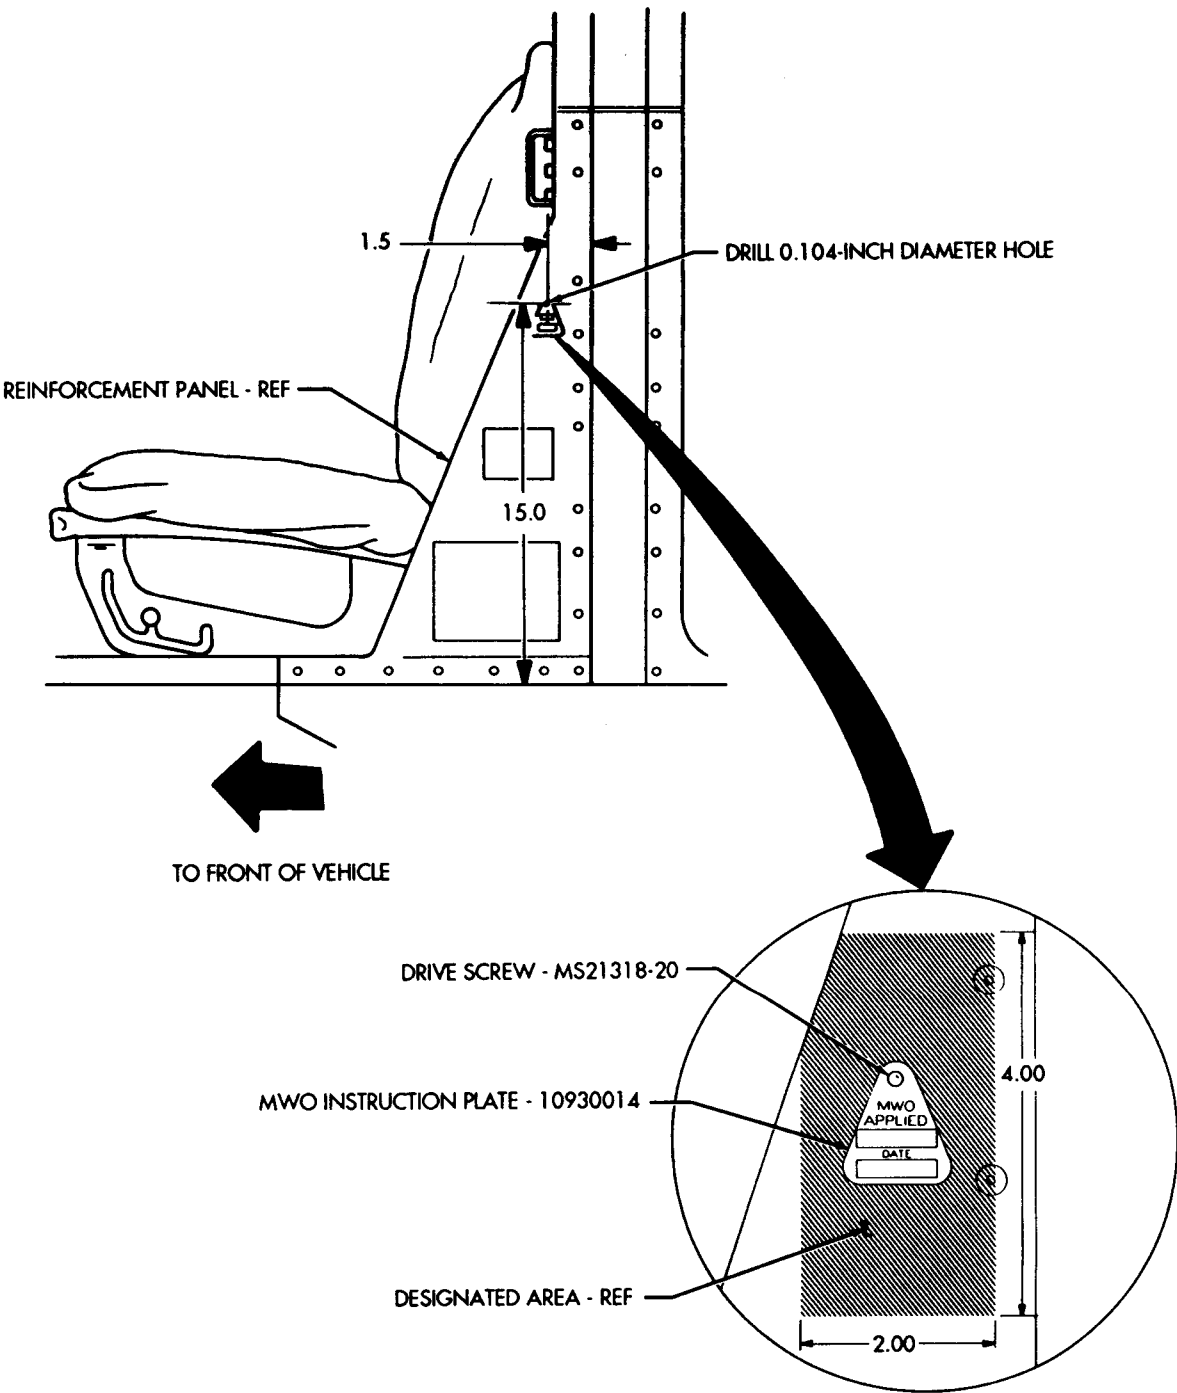

FIGURE 4
- (2) Install 10930014 MWO instruction plate by drilling a 0.104-inch diameter hole within designated area on body reinforcement panel and secure with MS21318-20 drive screw as shown in figure 4.
- (3) After drive screw is installed, flatten or remove any protruding drive screw material from inside of body reinforcement panel.